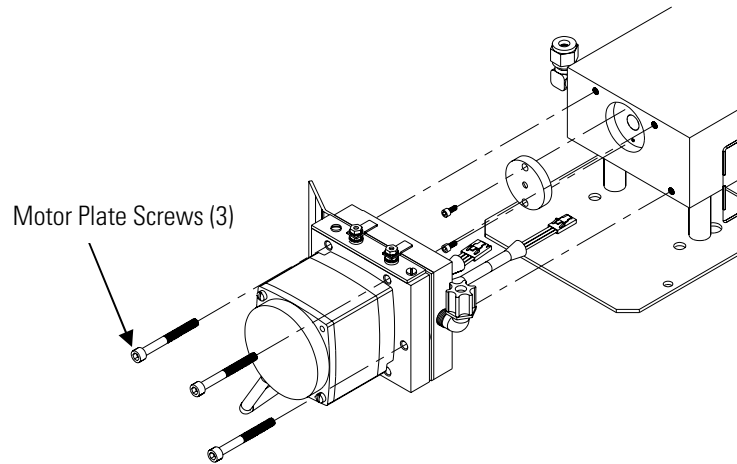

Figure 7-7. Removing the Motor (Standard)
2. Remove the motor and wheel assembly by removing the three motor plate Allen screws holding the motor plate to the optical bench Figure 7-7 or Figure 7-8 as appropriate.
Use the following procedure to replace the motor. Refer to Figure 7-7 or Figure 7-8 as appropriate.